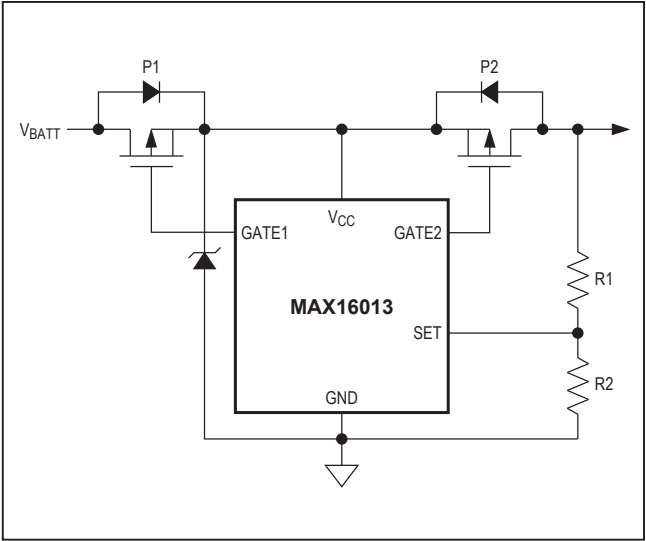

Figure 3. Overvoltage Limiter Protection
The MAX16013/MAX16014 can be configured as an overvoltage switch controller to turn on/off a load (see the *Typical Application Circuit*). When the programmed overvoltage threshold is tripped, the internal fast comparator turns off the external p-channel MOSFET (P2), pulling GATE2 to  $V_{CC}$  to disconnect the power source from the load. When the monitored voltage goes below the adjusted overvoltage threshold, the MAX16013 enhances GATE2, reconnecting the load to the power source (toggle ENABLE on the MAX16014 to reconnect the load). The MAX16013 can be configured as an overvoltage-limiter switch by connecting the resistive divider to the load instead of  $V_{CC}$  (Figure 3). See the *Overvoltage Limiter* section.
- Add a zener diode or transient voltage suppresser (TVS) rated below  $V_{CC}$  absolute maximum rating (Figure 3).
Most battery-powered applications must include reverse-voltage protection. Many times this is implemented with a diode in series with the battery. The disadvantage in using a diode is the forward-voltage drop of the diode, which reduces the operating voltage available to downstream circuits ( $V_{LOAD} = V_{BATTERY} - V_{DIODE}$ ). The MAX16013 and MAX16014 include high-voltage GATE1 drive circuitry, allowing users to replace the high-voltage-drop series diode with a low-voltage-drop MOSFET device (as shown in the *Typical Operating Circuit* and Figure 3). The forward-voltage drop is reduced to  $I_{LOAD} \times R_{DS-ON}$  of P1. With a suitably chosen MOSFET, the voltage drop can be reduced to millivolts.